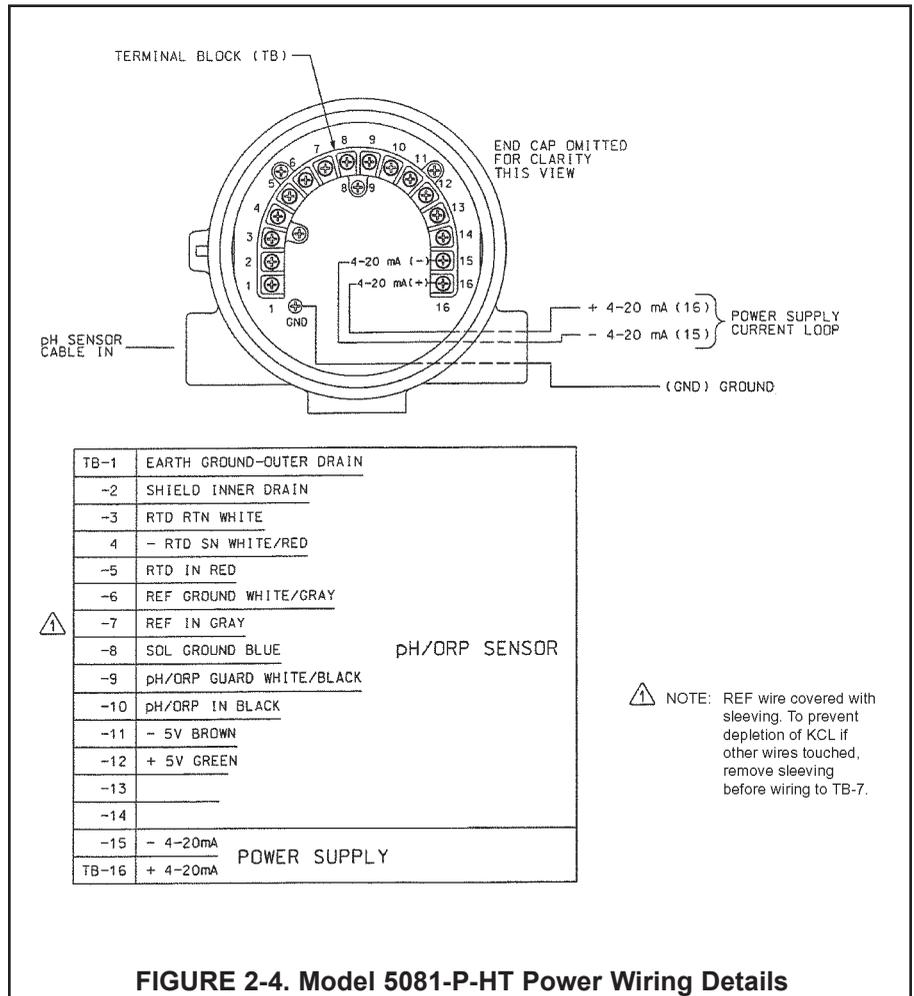

FIGURE 2-4. Model 5081-P-HT Power Wiring Details
2.5.2 Power Supply-Current Loop Wiring. Refer to Figure 2-4.